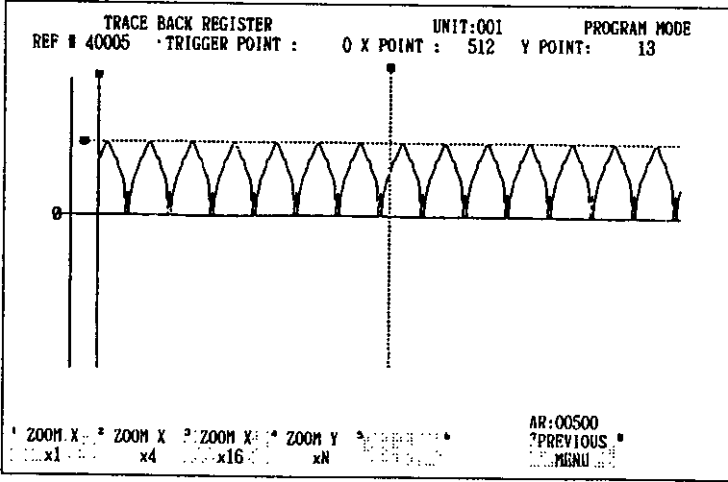

Fig. 3.246
2. The dotted line **O** indicates the moving cursor in the horizontal direction, and the dotted line **S** indicates the moving cursor in the vertical direction. The values at the "X POINT" and "Y POINT" displays indicate their coordinates, respectively. (See Fig. 3.246.)